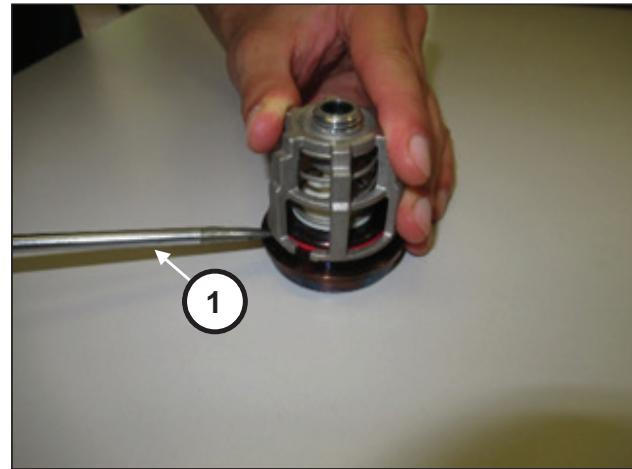

Fig. 108
Disassemble the suction and outlet valve units by levering with simple tools (pos. ①, Fig. 108).